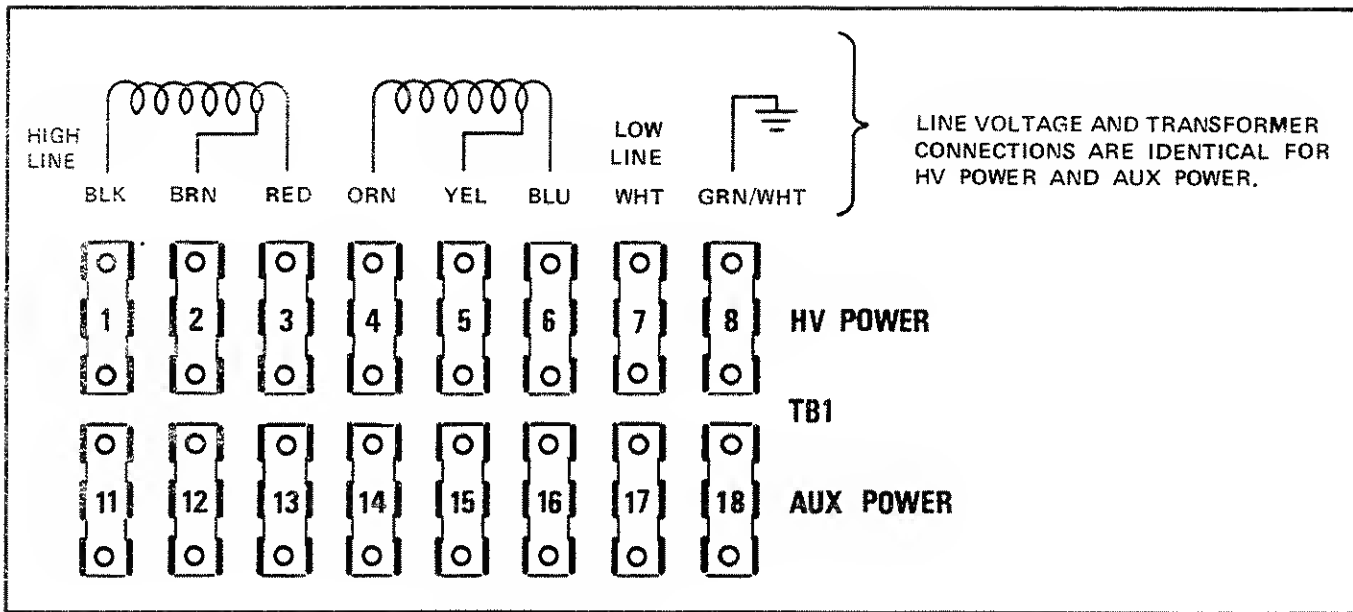

Figure 2-1. INPUT POWER TERMINAL STRIPS
- c. Locate the input power terminal strips shown in Figure 2-1. The layout is also shown on the transformer cover.
- d. Connect the jumpers as shown in Figure 2-1 and Table 2-1.